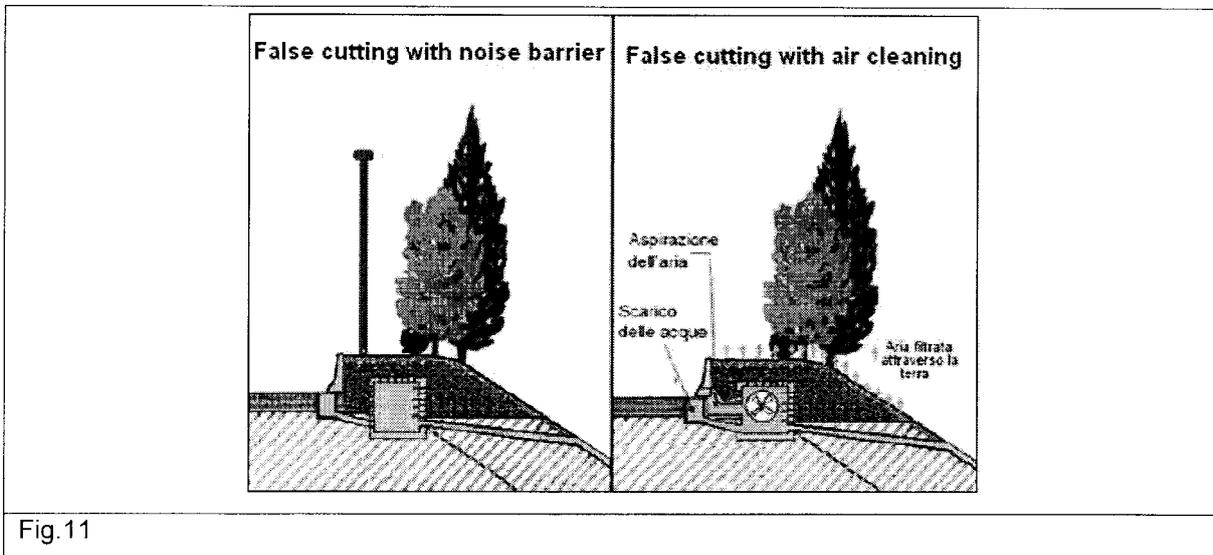

Fig.11
➤ Do you use solution in Fig.11 to drain water?
➤ Do/Would you use false cutting with noise barrier (Fig.11)?
- Do/Would you use solution in Fig.11 to clean air?